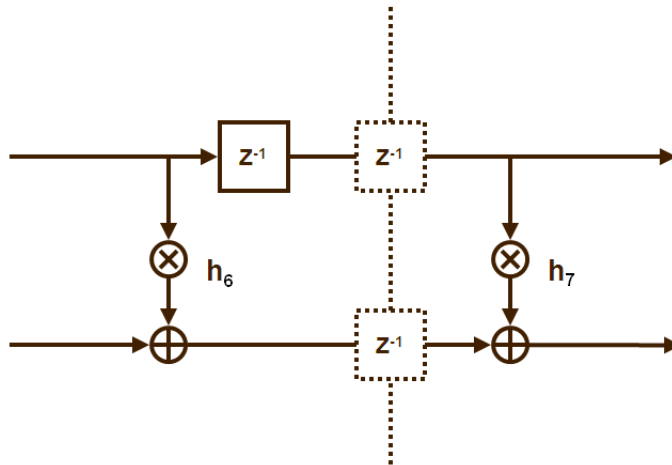

Figure 9: A pipeline stage between 7th and 8th taps of the filter
**Task 4** Now implement the filter in a coarse grained pipelined structure in VHDL. Add a single pipeline stage between taps 7 and 8 of the filter as shown in Figure 9. Verify its correct functionality using Modelsim likewise as the previous task.